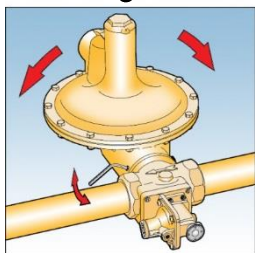

Fig. 2
8. In order to fit the regulator into confined spaces it may be necessary to rotate the diaphragm case. This is achieved by slackening off the three set screws, rotating the diaphragm case, and then re-tightening the set screws evenly. See Fig. 2.